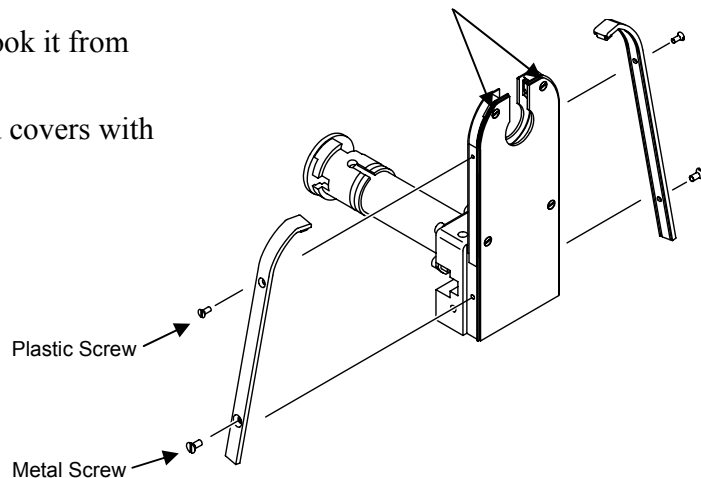

Figure 46 *Removing the Side Shields*
3. Lift the bottom of the side shield to unhook it from the metal insert. See Figure 46.